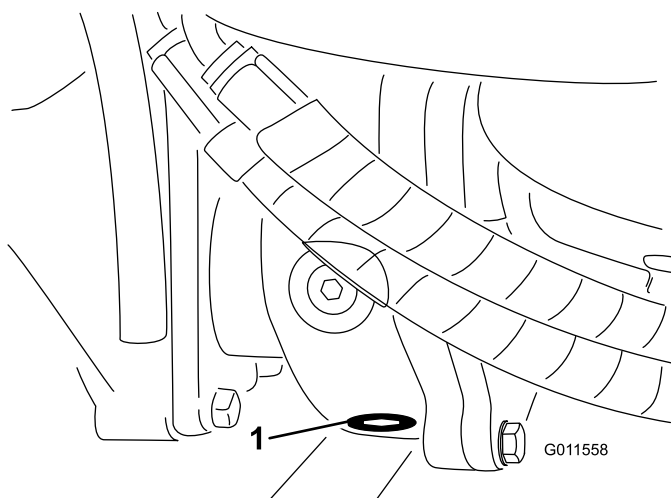

**Figure 96**
2. Clean the area around the 3 drain plugs; 1 on each end and 1 in the center (Figure 96).